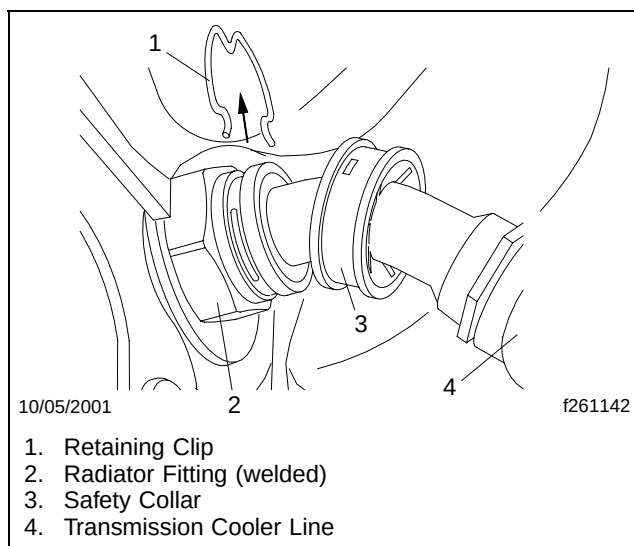

Fig. 2, Retaining Clip Removal
- 17.1 Pull back the safety collar. See **Fig. 2**